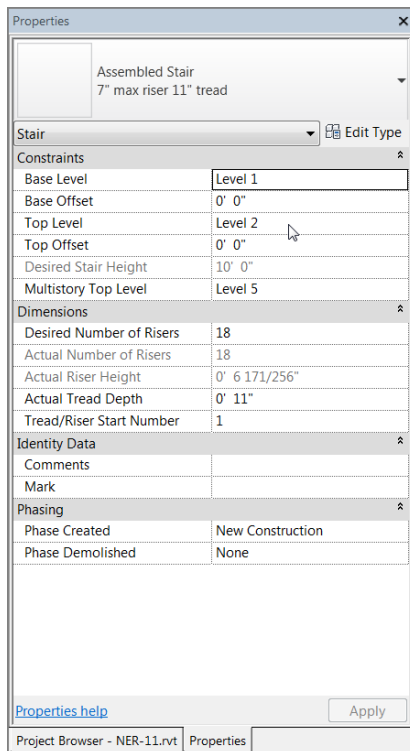

FIGURE 10.3: Changing the Element Properties of the stairs
8. Change Multistory Top Level to Level 5 (see Figure 10.3).